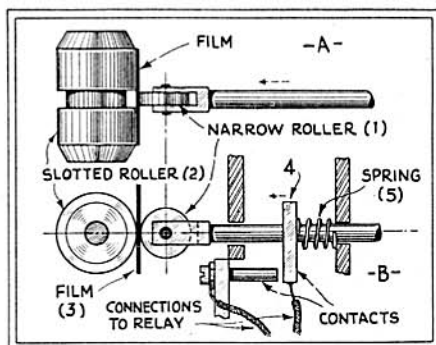

Fig. 2
When the end of the first 1,000-foot length of film has been reached, the slotted leader passes between the rollers shown in detail in Fig. 2. The narrow roller (1) projects through the slotted portion of the film (3) during its passage, thus bringing together the two contacts shown in the picture and closing a primary circuit through a relay. The operation of the relay causes the clutch magnet to be momentarily energized which trips the armature; thus allowing the clutch shaft to spring back and cause the incoming turntable to start. Since the slotted strips of film are cemented in a given relation to the "start frames," the incoming turntable will commence revolving at the same instant that this frame is passing through the picture gate. Accurate synchronization between the disc and film is thus assured.
A view of the film-rollers between which contact is effected, as shown in diagram form above in Fig. 2 (The figures in the two diagrams correspond). At the left will be seen the central slot, in the vertical film, by which the mechanism shown in Figs. B and 3 is started.